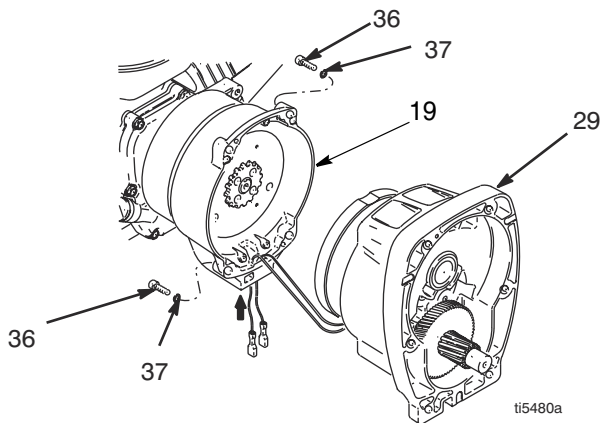
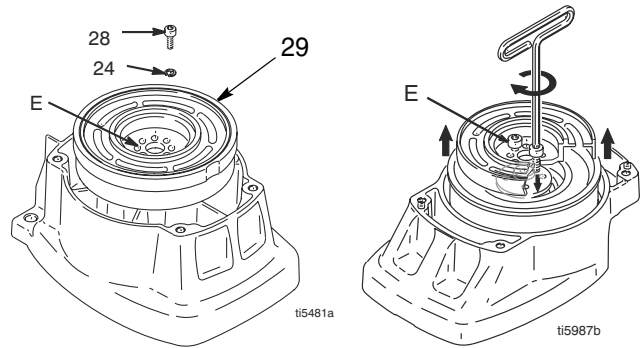

FIG. 4
FIG. 5
2. FIG. 4. Disconnect clutch cable connectors from inside of pressure control.
3. FIG. 4. Remove four screws (36) and pinion assembly (29).
4. FIG. 5. Place pinion assembly (29) on bench with rotor side up.
5. Remove four screws (28) and lock washers (24). Install two screws in threaded holes (E) in rotor. Alternately tighten screws until rotor comes off.
- FIG. 5. Place pinion assembly on bench with rotor side up.
- Apply thread sealant to screws. Install four screws (28) and lock washers (24). Alternately torque screws to 125 in-lb until rotor is secure. Use threaded holes to hold rotor.
- FIG. 4. Install pinion assembly (29) with four screws (36) and washers (37).